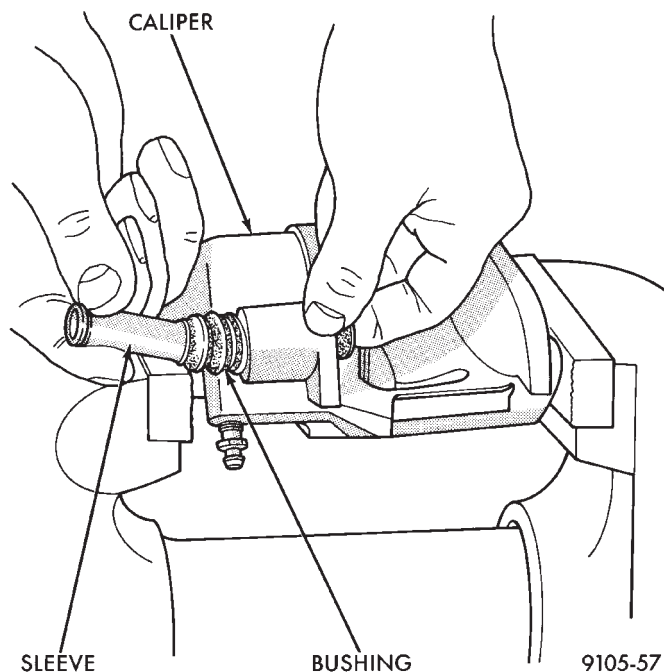

Fig. 77 Removing Inner Sleeve From Bushing
(1) Remove caliper from brake rotor (See Brake Shoe Removal). Hang caliper assembly on a wire hook away from the brake rotor.
(2) Push out and then pull the steel sleeve from the inside of the bushing using your fingers as shown in (Fig. 77).